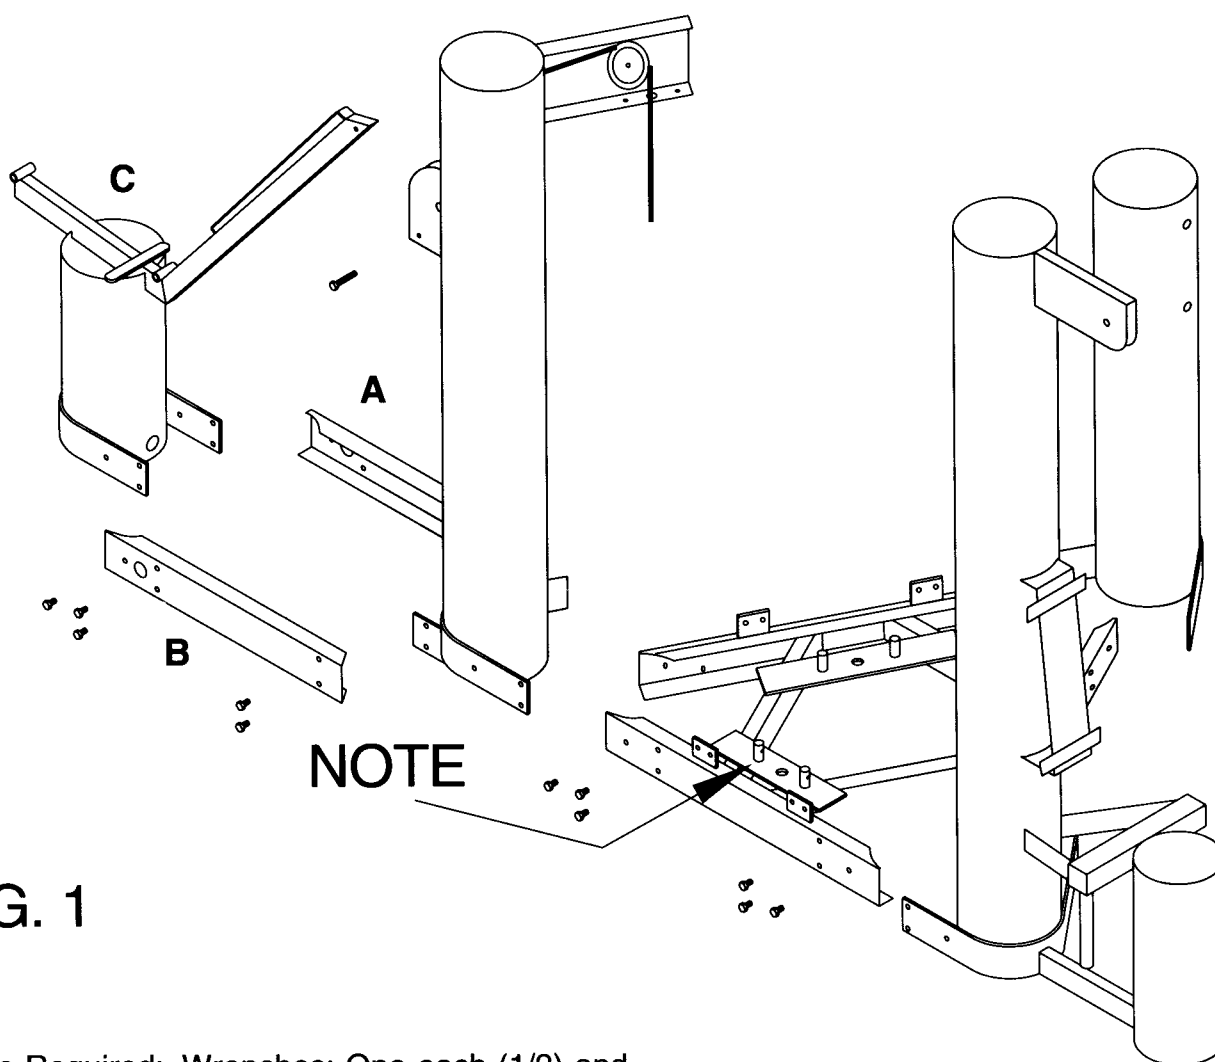

FIG. 1
Note: Press station guide rod locator tubes (the ones with holes) face front. (Fig. 1)
4. Assemble the right (A) and left frame (B) members and the leg/ab seat column (C) to the machine (3/8-16 x 3/4 hex screw, Qty: 11: 3/8-16 x 1-3/4 hex screw and nut, Qty: 1 ea.). (Fig. 1)